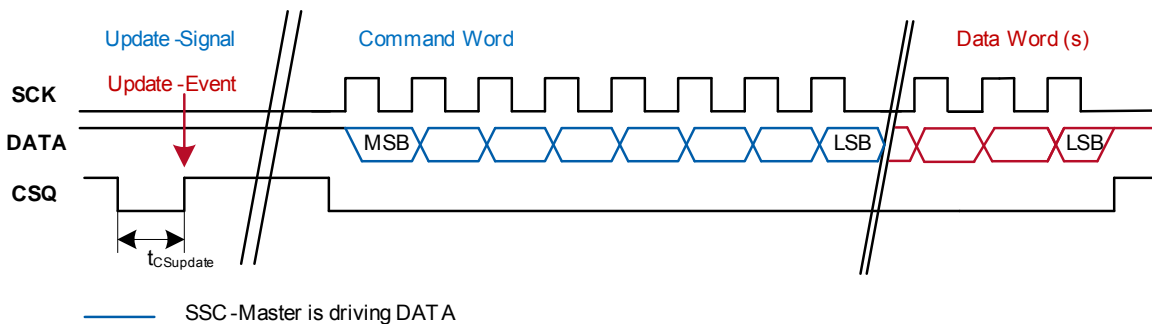

Figure 22 Update of update-registers
- Every access to the TLE5012B with the number of data (ND)  $\geq 1$  is performed with address auto-increment.
- At a rising edge of CSQ without data transfer before (no SCK-pulse), the update-registers are updated with according values (Figure 22).